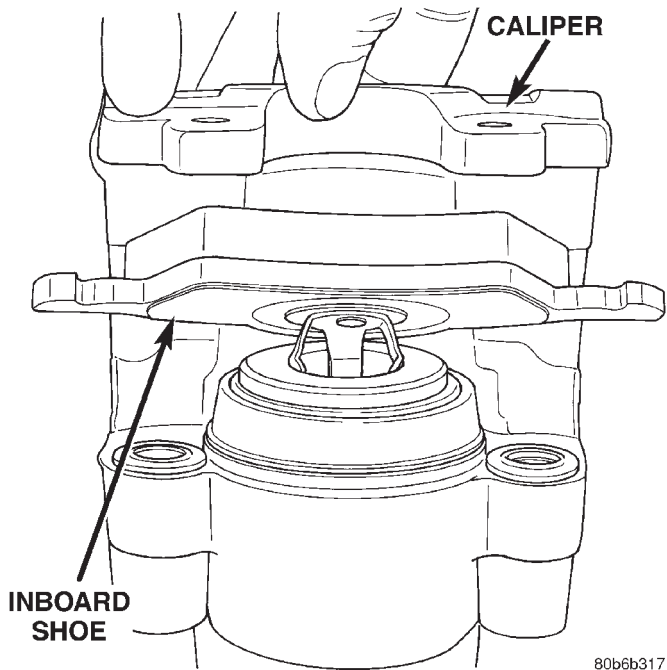

Fig. 36 Inboard Brake Shoe
- (8) Remove caliper from the anchor.
- (9) Remove the inboard brake shoe (Fig. 36).
- (1) Install the inboard brake shoe (Fig. 36).
- (2) Lubricate the slide pins and slide pin bushings with Dow Corning® grease G807 or the grease provided with the caliper.
- (3) Install the caliper on the anchor.
- (4) Install the caliper slide pin and tighten to 29-41 N·m (21-30 ft. lbs.).
- (5) Install the caliper slide pin plugs.
- (6) Install the caliper support spring in the top end of the caliper and under the anchor. Then install other end into the lower caliper hole. Hold the spring into the caliper hole with your thumb while prying the end of the spring out and down under the anchor with a screw drive.
- (7) Install brake hose to caliper with **new** gasket washers and tighten banjo bolt to 31 N·m (23 ft. lbs.).